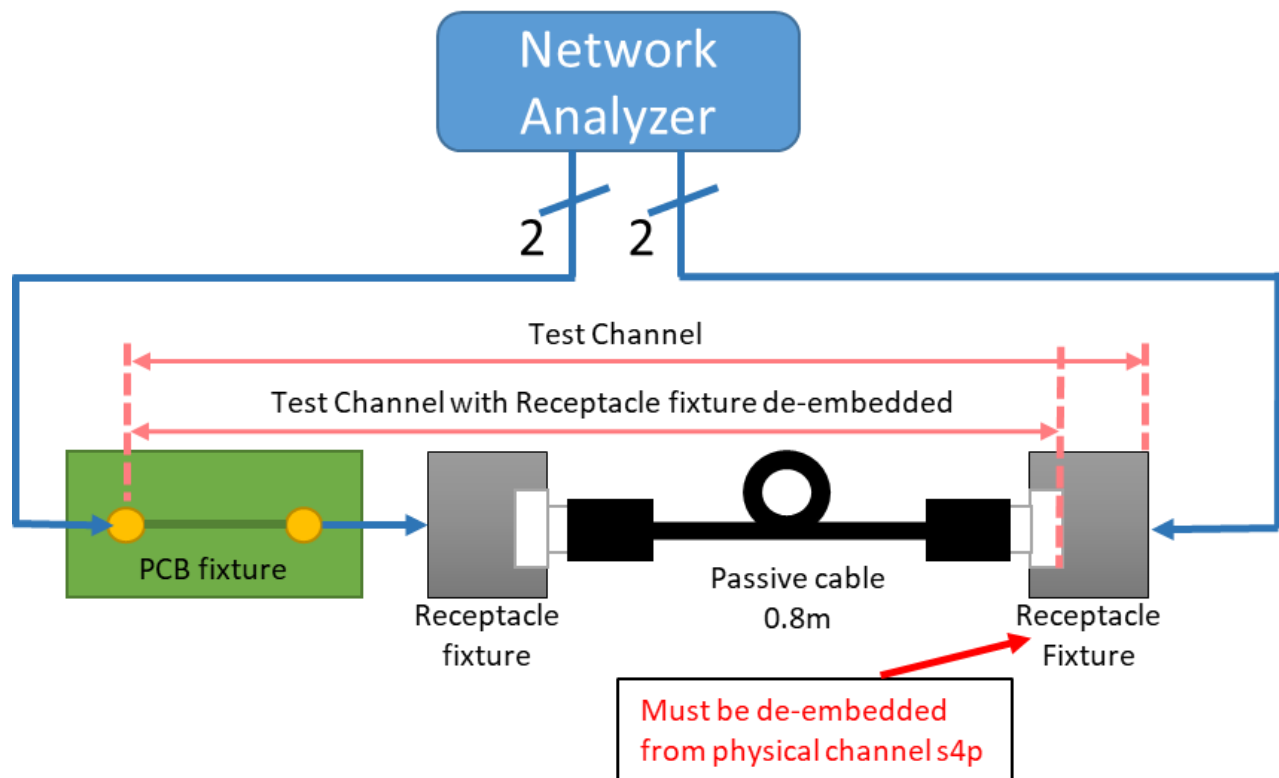

Figure 11. Test Channel setup
2. Construct a Test Channel setup as shown in Figure 11